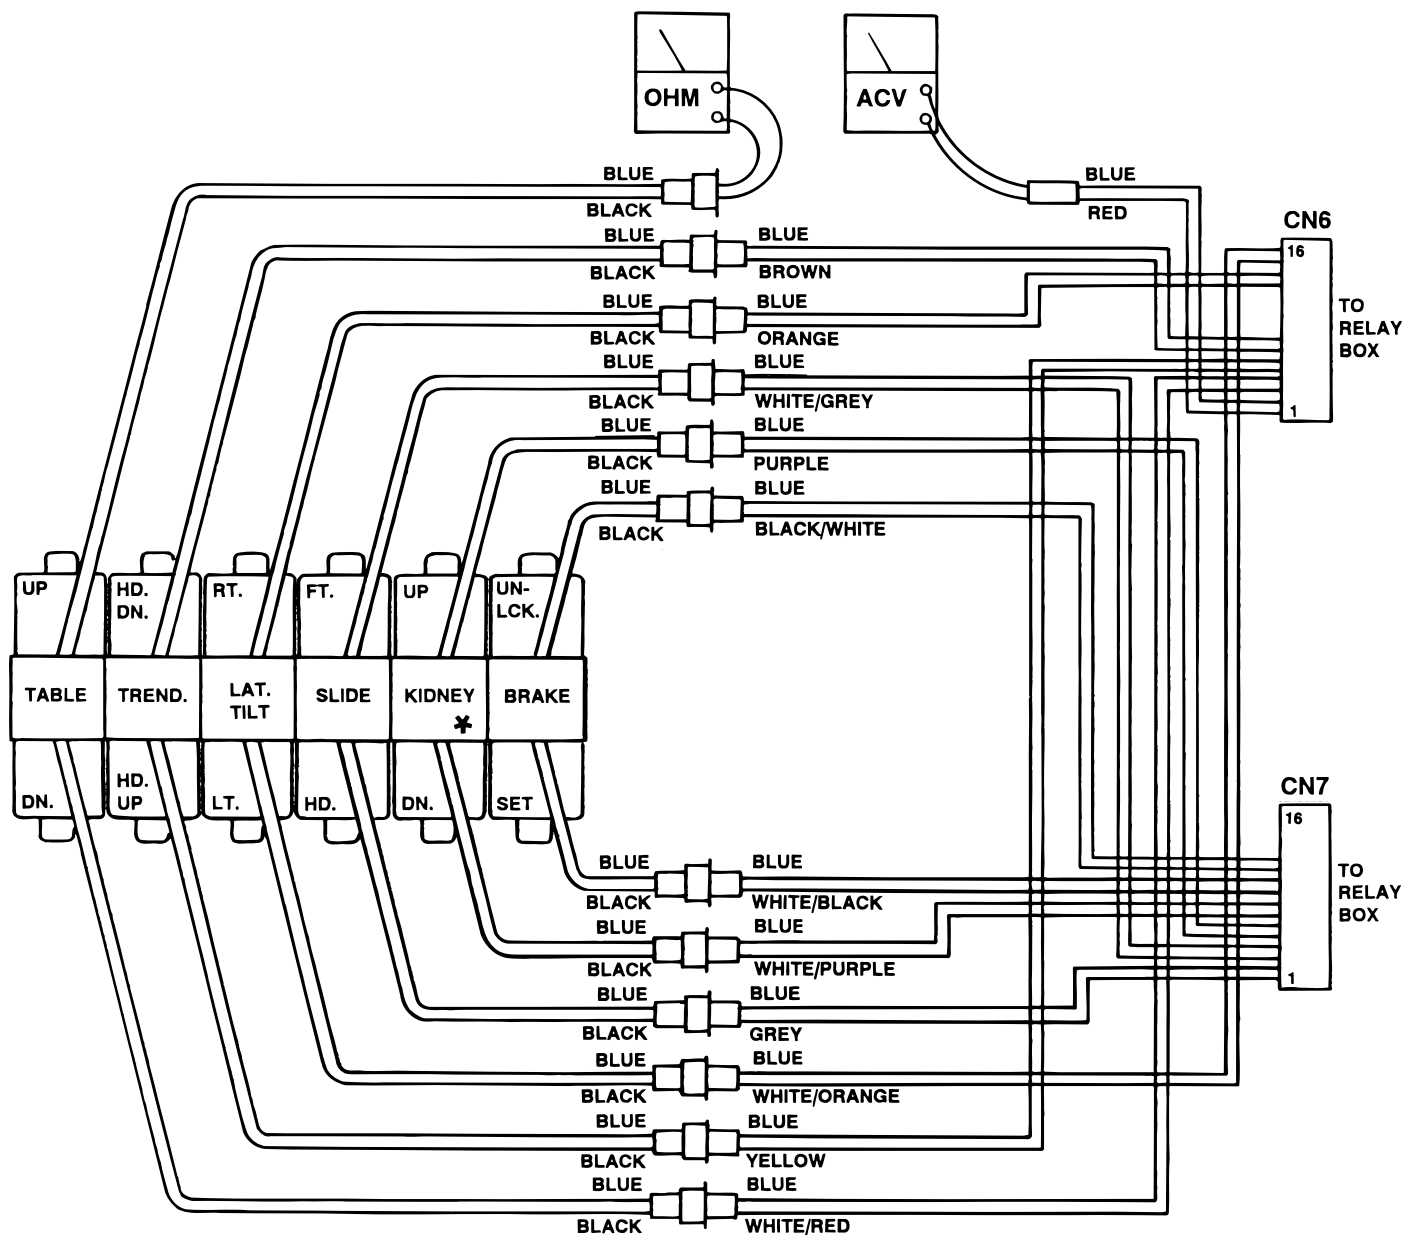

Figure 6-9 Solenoid Test
2. Disconnect the 2 pin connector from the solenoid in question. See figure 6-9.
1. Measure the resistance between the two pins of the connector in question. See figure 6-9.